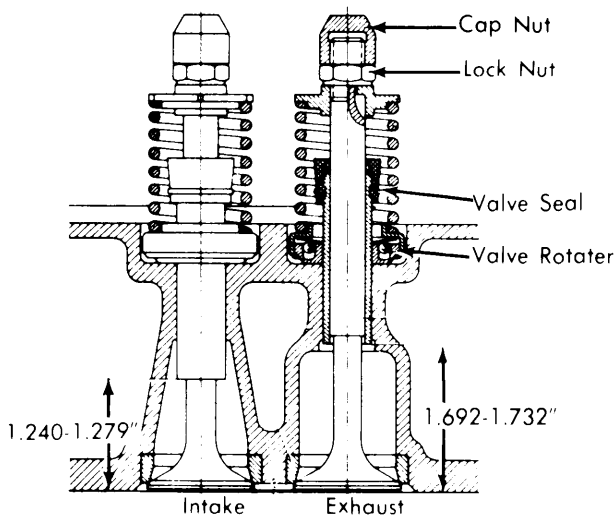

Fig. 2 Installed View of Valve Assemblies
- 3) Press in new guides from combustion side until specified distance is achieved. See Fig. 2. Check guide bores for free movement of valves, and remove any tight spots.